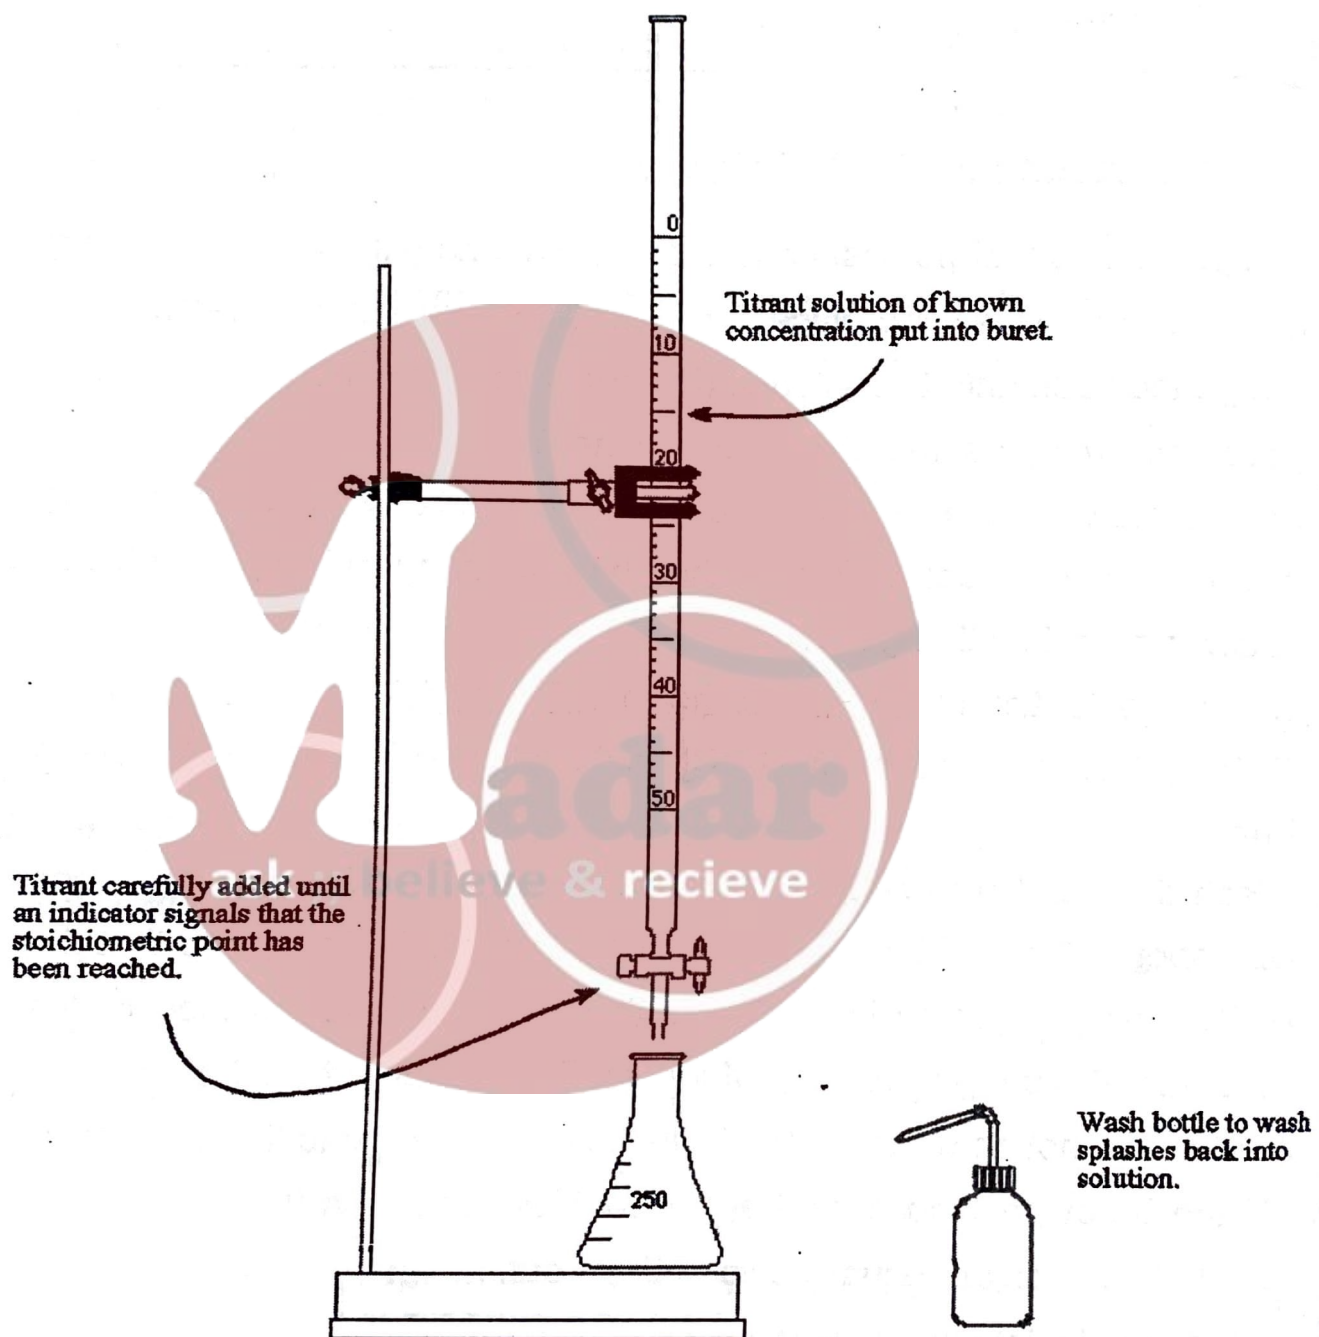

Figure 5.1. Setup for titration; stand, clamp, buret, and flask
3. Set up the titration apparatus as shown in Figure 5.1.